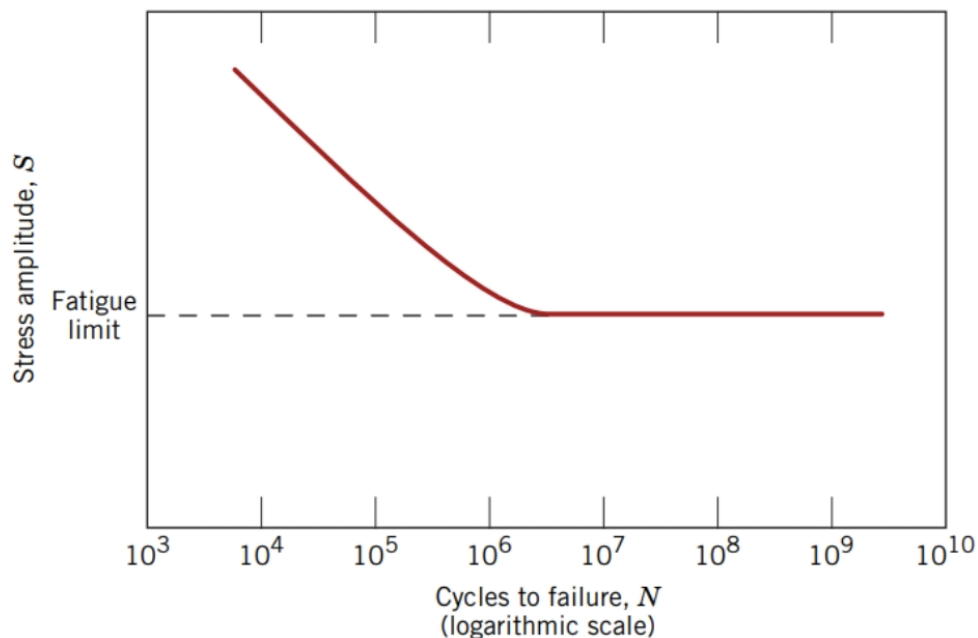

Figure 8: Dependence of fatigue lifetime on stress amplitude during cyclic loading for the Fe-C considered in problem 2 e-g.
- h. Before carburization the steel has a fatigue lifetime plot like that shown in Figure 8. On this figure, sketch a curve illustrating how this curve might look after carburization.